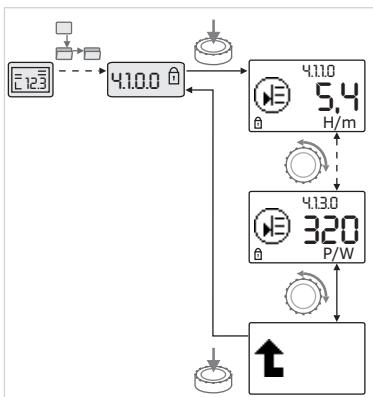

Fig. 44: Calling up information
- Turn the red button to access the “Information” menu elements in the current sub-menu (see Fig. 44). For an explanation of the settings represented by the symbols, see the table in chapter 8.7 “Menu elements reference” on page 99.